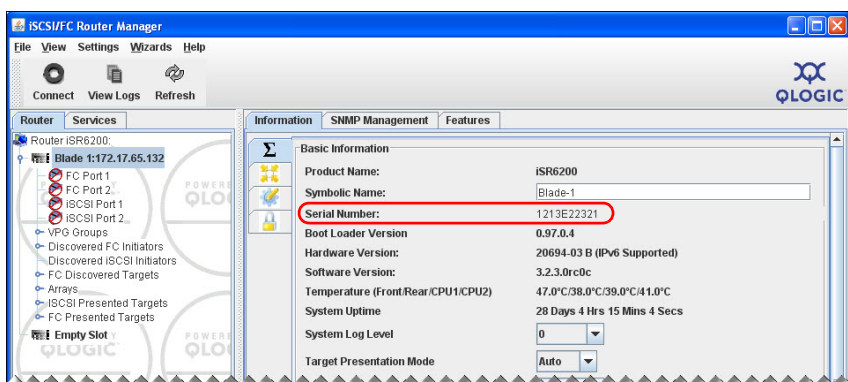

Figure 12. Locating the Blade Serial Number in the GUI
3. In the right pane on the Information page, locate and write down the **Serial Number** shown under Basic Information (see Figure 12).